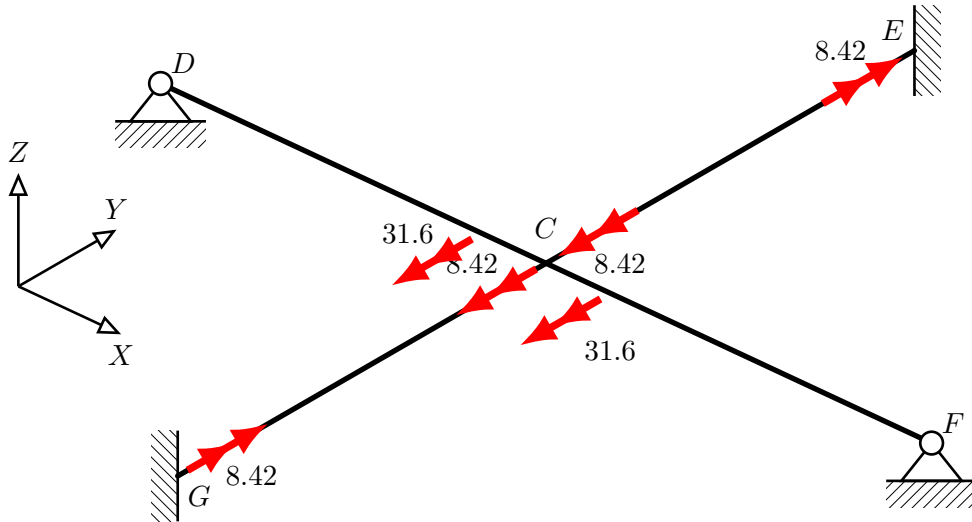
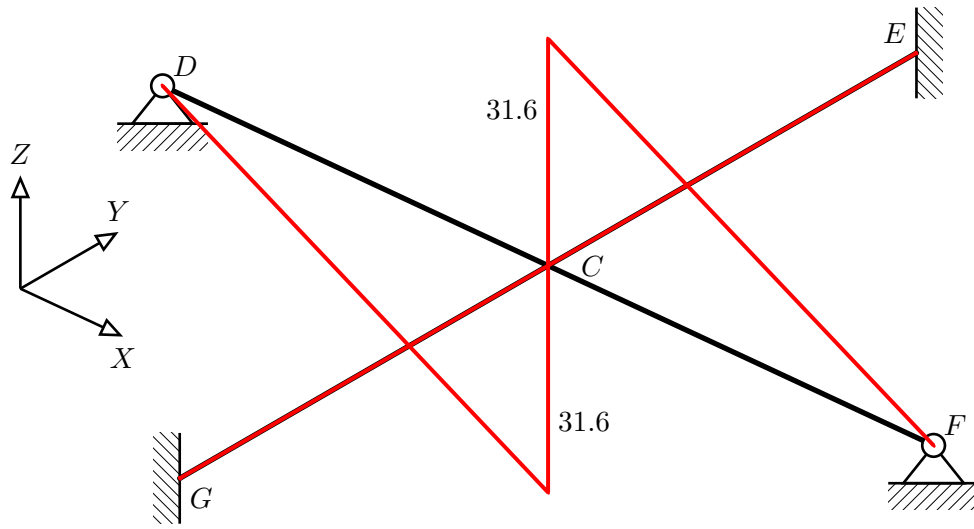
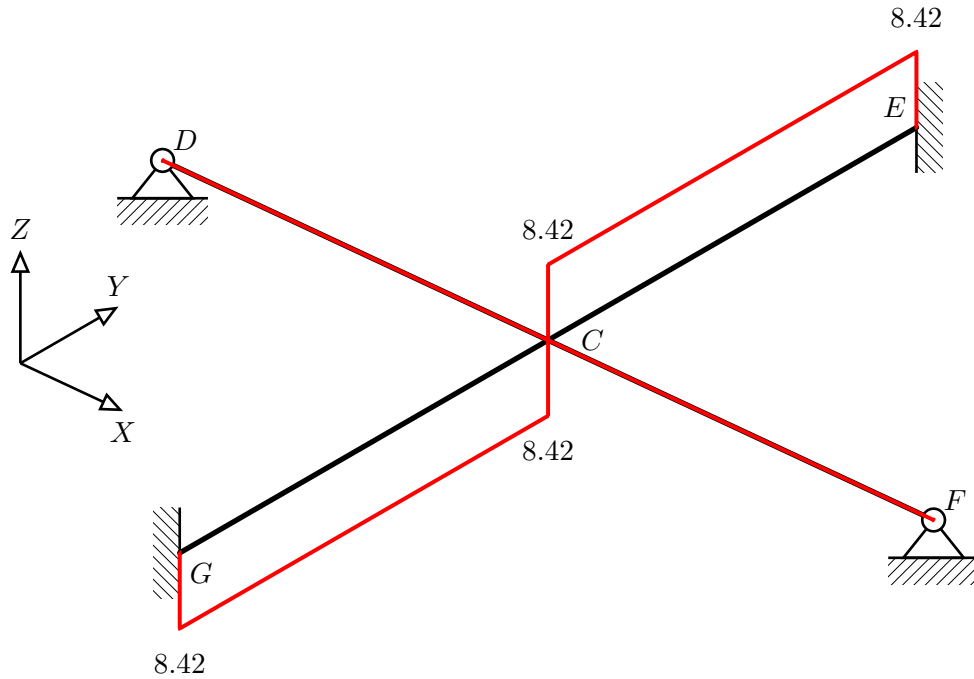

Figure 2: Free body diagram.
Figure 3: Bending Moment Diagram.
Figure 4: Torsion Moment Diagram.
**Step 10** is to draw the internal actions diagrams. To do this, the results of the member actions which were derived in the local member coordinate system must now be considered now in the global coordinate system. The easiest way to do this is to draw the directions by carefully interpreting the member force signs against the global axis system. The resulting FBD is shown in Figure 2.
Considering the BMD, for each member, to identify the side in tension it can help to visualise the deformation resulting from the forces acting on it indicated in the free body diagram, Figure 2. Since there are no loads acting between the nodes, the BMD is comprised of straight lines between the values at each node. The BMD is shown in Figure 3.
For the TMD, it is not necessary to adopt a strict drawing convention once the relative actions are indicated. For example, the double-headed arrow in Figure 2 indicating the torsion of member  $CE$  could be thought of as an analogous “tension” which we may consider as positive, and so we draw the TMD above the line. Similarly, for member  $CG$ , the double-headed arrows act in the opposite sense to the analogous “tension” and so are analogous to “compression”, which we then draw on the bottom of the member, as shown in Figure 4.